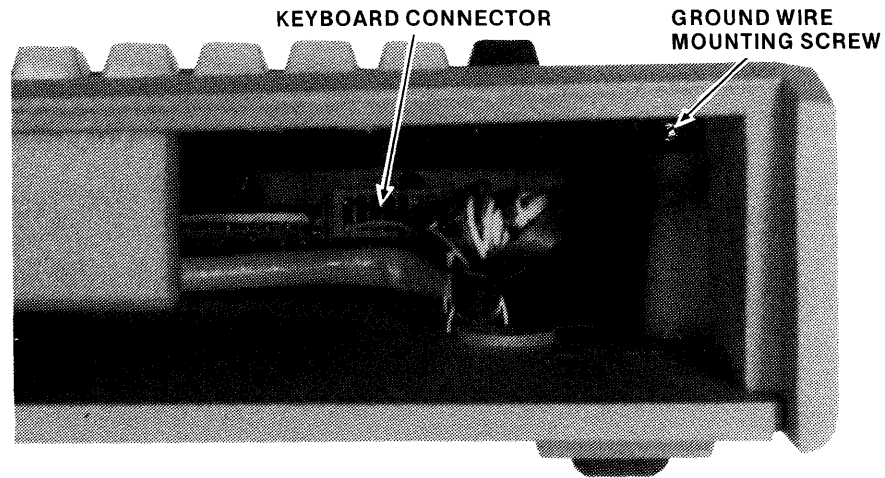

Figure 2-6. Keyboard Cable Connection
7. Refer to Figure 2-6. Disconnect the keyboard cable at the point of connection to the keyboard, then replace it firmly to ensure proper seating. Be certain that the ground wire is attached to the mounting screw next to the keyboard cable plug. Do not route the keyboard cable under the chassis.